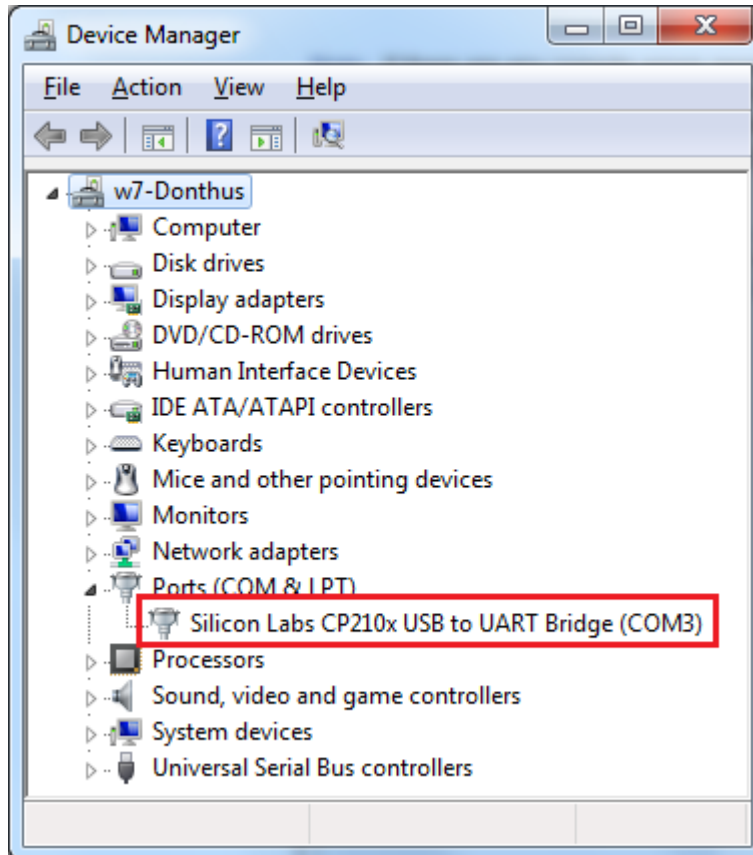

Figure 31 · Device Manager Listing Silicon Labs CP210x USB to UART Bridge Drivers
2. If the Silicon Labs CP210x USB to UART Bridge drivers are automatically detected (this can be verified in Device Manager), as shown in Figure 31 , proceed to the next step; otherwise follow the